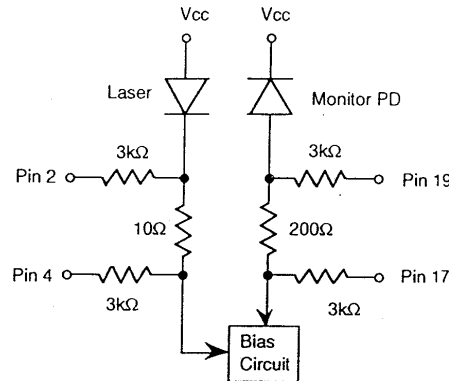

Figure 3 Monitor Circuit Schematic Diagram
- The Laser Bias and Rear Facet Monitor currents are calculated as ratios of the corresponding voltages to their current-sensing resistors, 10 Ω and 200 Ω, respectively (See Figure 3). Upon measuring or utilizing these values, use a device whose input impedance is high enough (>1MΩ) compared with those resistors.
3. Please refer to Figure 3 for Pin 2, 4, 17 19.